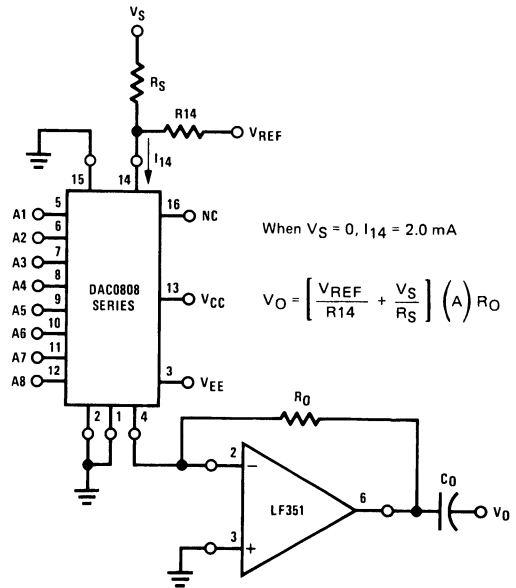

FIGURE 9. Programmable Gain Amplifier or Digital Attenuator Circuit (Note 7)
**Curve C:** Large and Small Signal Bandwidth Method of Figure 9 (no op amp,  $R_L = 50\Omega$ ),  $R_S = 50\Omega$ ,  $V_{REF} = 2V$ ,  $V_S = 100 \text{ mV}_{p-p}$  centered at 0V.